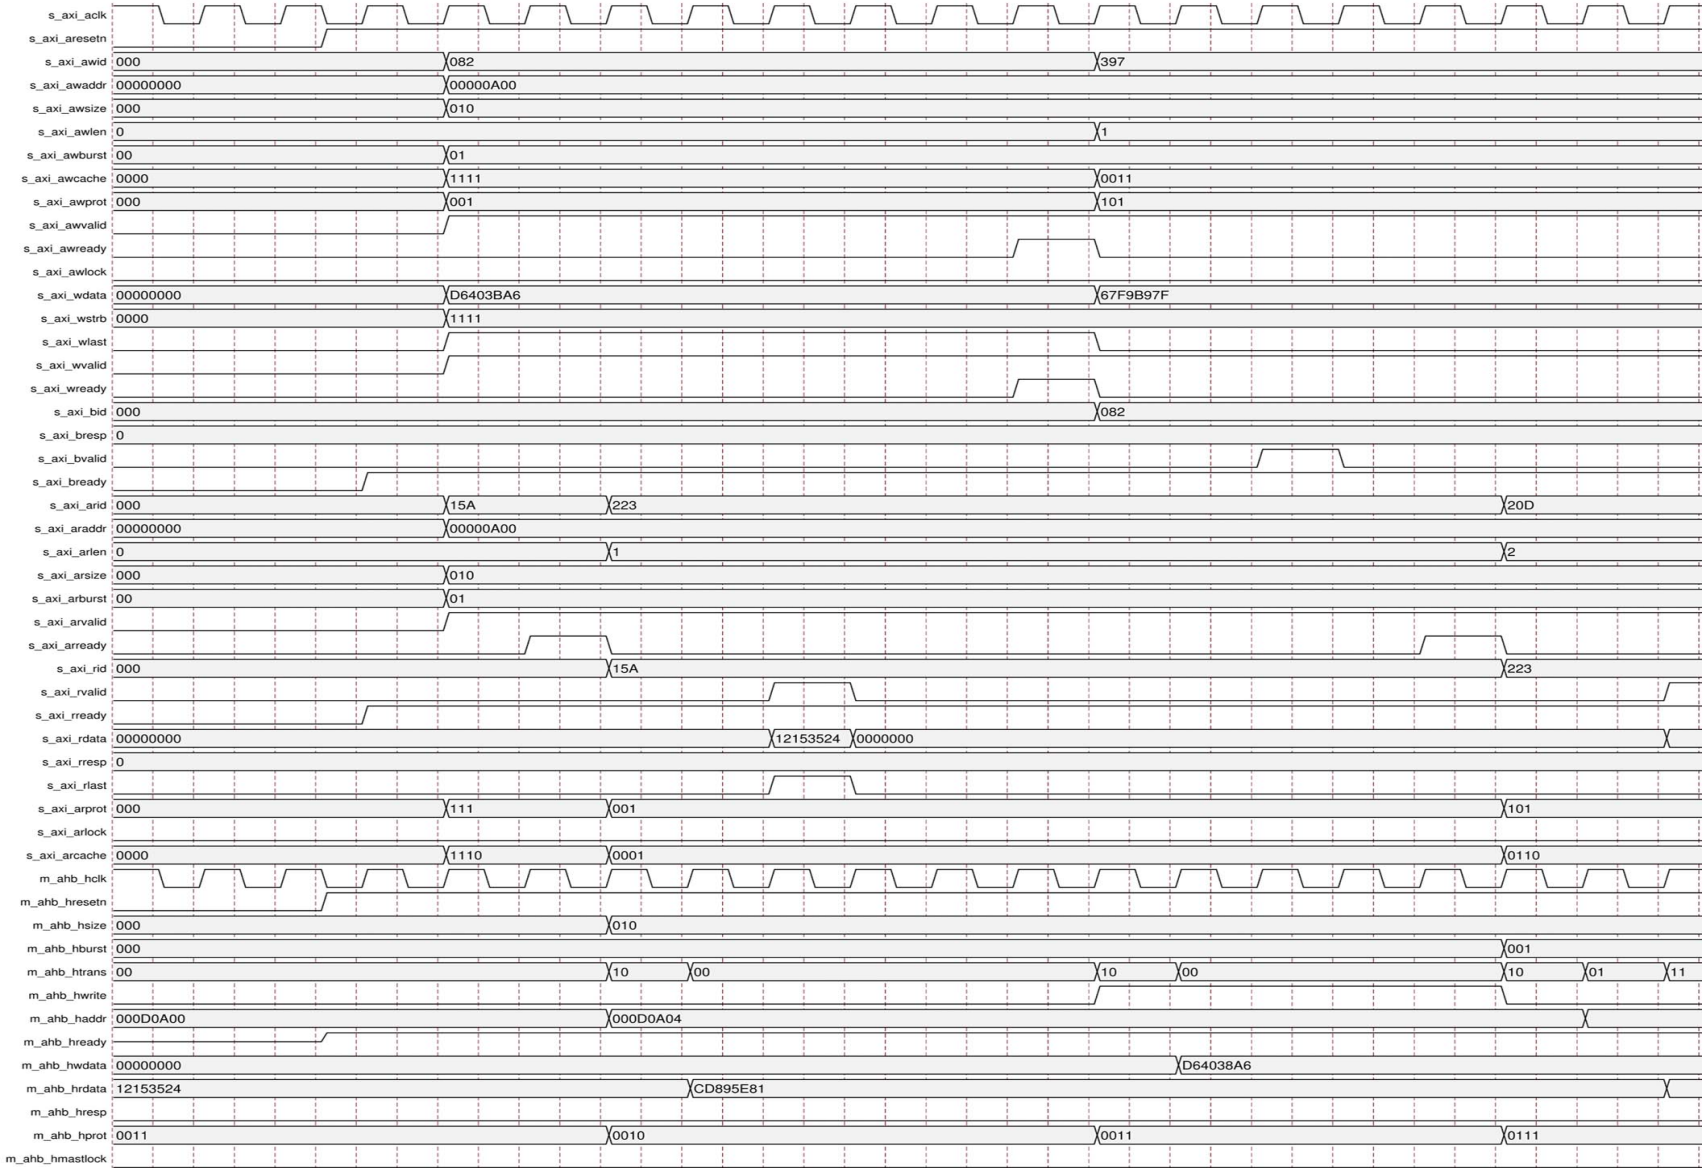

Figure 3-3: AXI4 Read and Write Transfers
3. AXI4 read and write transfers is shown in Figure 3-3. As shown, when read and write transfers are initiated on the AXI4 interface at the same time, the read transfer is given a higher priority than the write transfer.